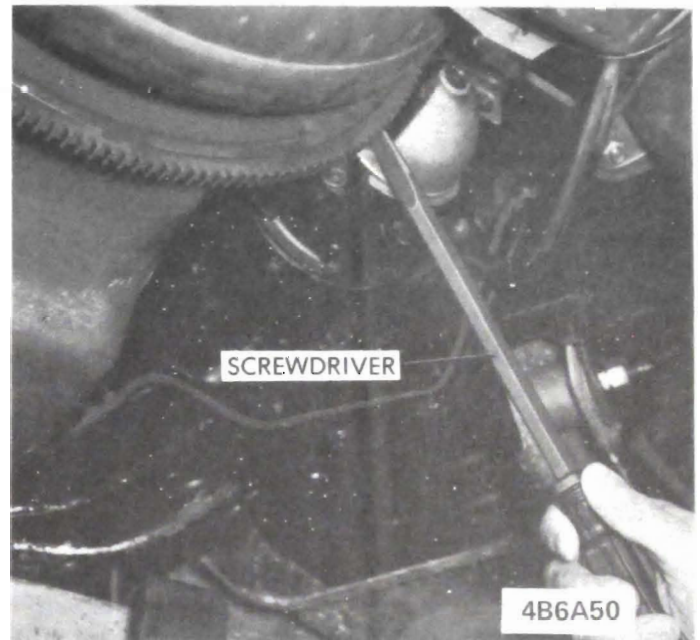

Figure 6A-96 - Locking Flywheel to Torque Harmonic Balancer Bolt.(350 cu.in. Shown)
5. Install harmonic balancer, bolt and washer. By using a screwdriver or other suitable tool, lock flywheel and torque bolt to (140-160 lb. ft. on 350 cu.in.) and (200-220 lb. ft. on 455 cu.in.) See Figure 6A-96.